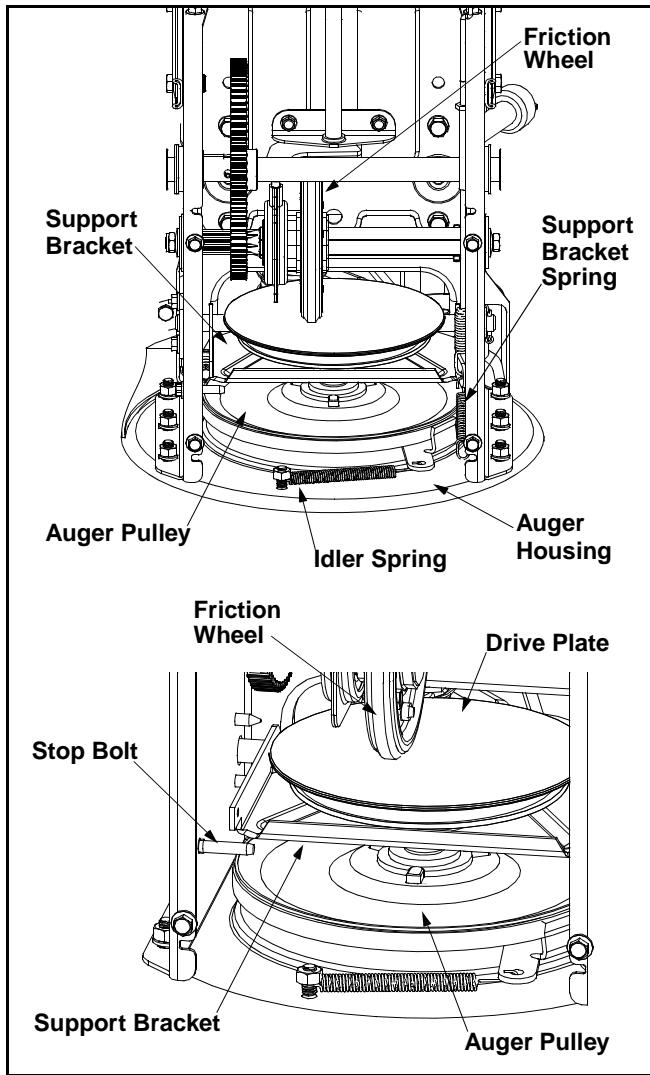

Figure 18
- Unhook the idler spring from the hex bolt on the auger housing. See Figure 18.
- Lift the auger belt from the auger pulley, and slip belt between the support bracket and the auger pulley. See Figure 18.
- Back out the stop bolt until the support bracket rests on the auger pulley. See Figure 18.
**NOTE:** The support bracket must rest on the stop bolt after the new belt has been assembled. See Figure 18.